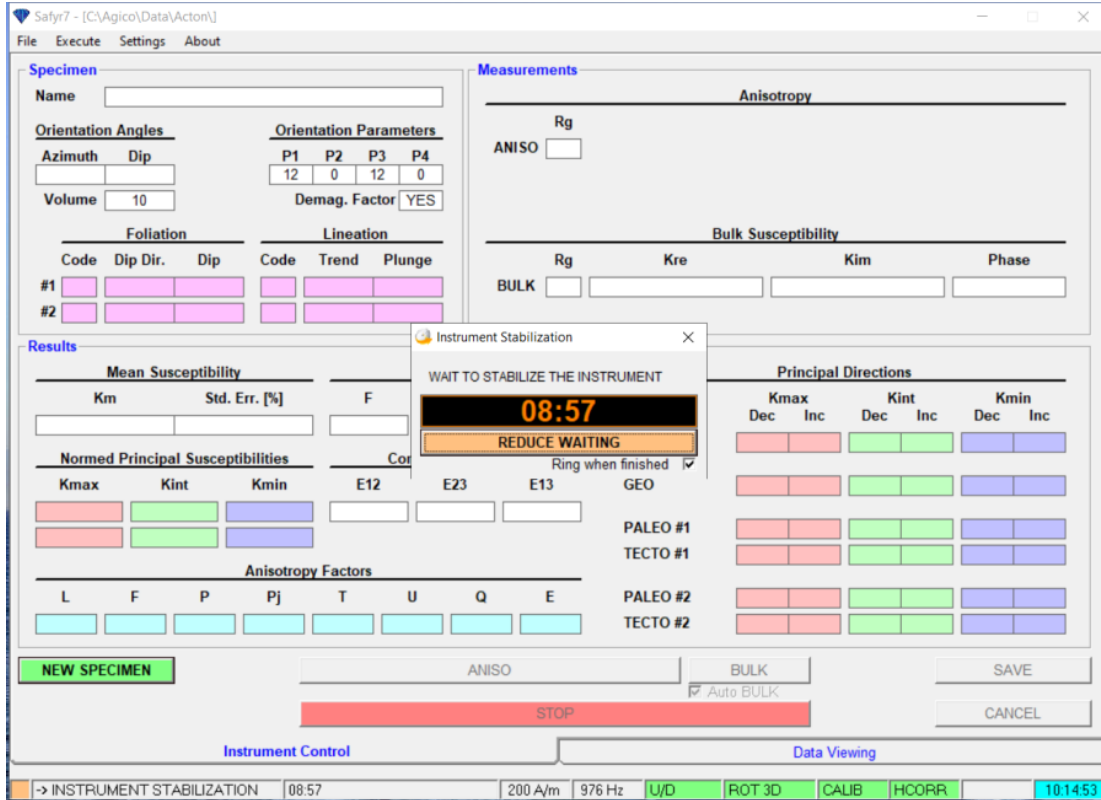

Figure 8: Instrument Stabilization Window
6. Wait for the instrument to **stabilize for 10 minutes** (Figure 8).